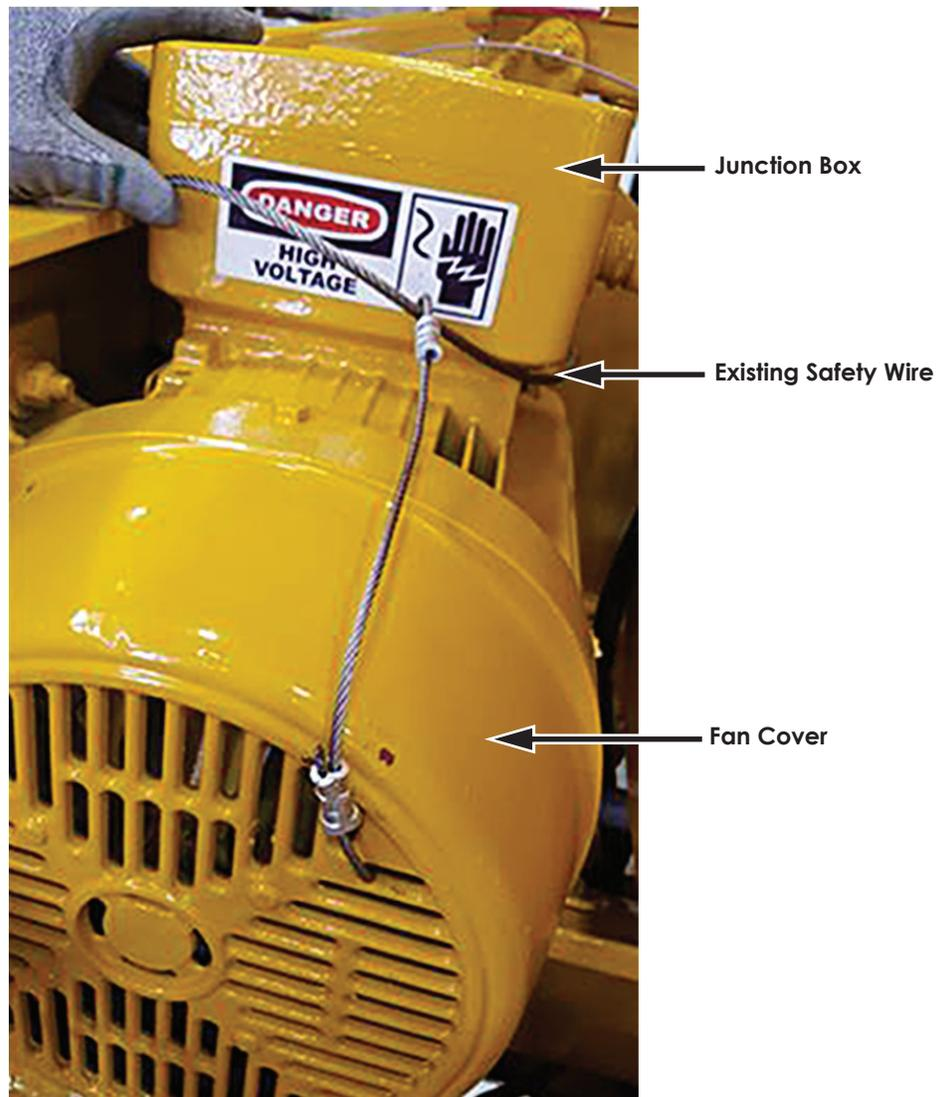

Figure 3: Other end of safety wiring secured to existing loop
5. Create another loop with the other end of the 1/8" wire rope and secure it to the existing 3/16" wire rope secured around the junction box on the side of the motor. If a 3/16" wire is not already installed, route 3/16" wire rope around the motor's junction box and crimp before securing the 1/8" wire rope. Ensure that the loop is snug around the junction box so that it will not slip off. See Figure 3.